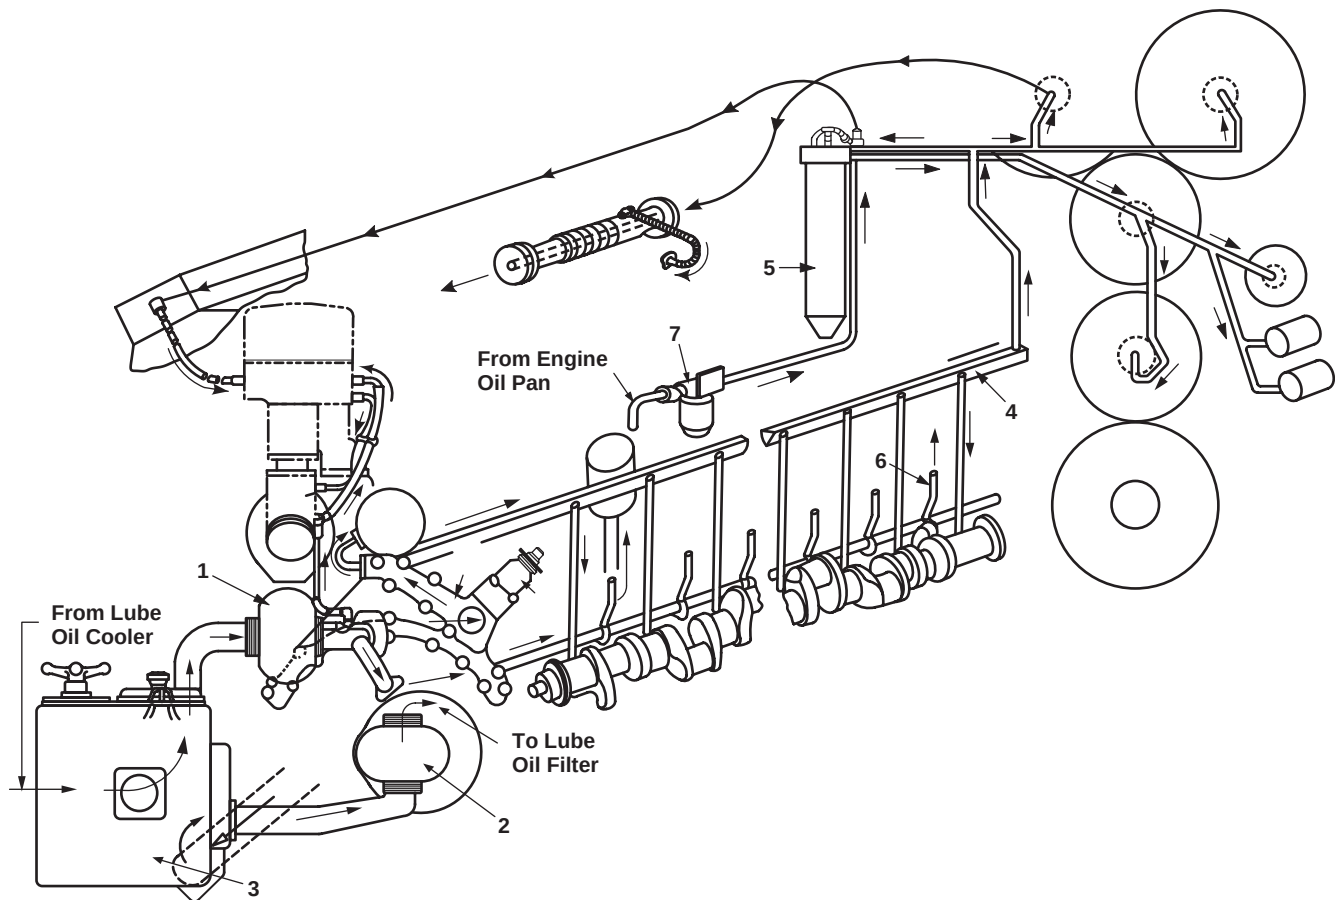

Figure 4. Main Engine Lubrication System
The complete engine lubricating oil system is a combination of five separate systems, holding 125 gallons (473 liters) of lubricating oil. The five separate systems are: the main lubricating system, the piston cooling system, the scavenging oil system, the turbocharger lubrication (soakback) system, and the prelube system. Each system has its own oil pump. The main lube oil pump and main lube oil and piston cooling oil pump (figure 4, item 1), although individual pumps, are both contained in one housing and driven from a common drive shaft. The scavenging oil (figure 4, item 2), soakback, and prelube pumps are separate pumps. All pumps except the soakback and the prelube pumps are driven from the accessory gear train at the front of the engine.
The main lubricating oil system supplies oil under pressure to most of the moving parts of the engine. The main lube oil and piston cooling oil pump (figure 4, item 1) take oil from the strainer housing (figure 4, item 3) at the right front of the engine. Oil from the main lube oil and piston cooling oil pump goes into the main oil manifold (figure 4, items 4), which is located above the crankshaft and extends the length of the engine.
Oil tubes at the center of each main bearing “A” frame conduct oil from the main manifold (figure 4, item 4) to the upper half of the crankshaft bearings. Drilled passages in the crankshaft supply oil to the connecting rod bearings, damper, and accessory drive gear at the front of the crankshaft. Runoff oil from the adjacent main bearings lubricates the crankshaft thrust bearings.
Oil from the main lube oil manifold (figure 4, item 4) enters the gear train at the idler gear stubshaft bracket located at the rear of the engine. Oil passages in the stubshaft bracket distribute the oil. One passage conducts oil to both the right and left bank camshaft drive, gear stubshaft brackets, and to a manifold connected to the turbocharger oil filter (figure 4, item 5). After passing through the turbocharger oil filter, the oil enters the return line in the manifold and flows back to the idler gear stubshaft. A passage in the idler gear stubshaft bracket directs lube oil to the upper and lower stubshaft bearings. Filtered oil enters the turbocharger oil system from the upper idler gear stubshaft.
An oil passage in the turbocharger oil filter (figure 4, item 5) head, parallel to the turbocharger oil filter output line, is connected to a passage in the turbocharger oil manifold. An oil pressure line is connected between the manifold passage and the low oil pressure device in the governor.
Internal parts of the piston are lubricated and cooled by the piston cooling oil pump of the main lube oil and piston cooling oil pump (figure 4, item 1). The piston cooling oil pump receives oil from a common suction with the main lube oil pump and routes oil to the two piston cooling oil manifolds extending the length of the engine, one on each side. A piston cooling oil pipe (figure 4, item 6) at each cylinder directs a flow of oil through the carrier to cool the underside of the piston crown and the ring belt. Some of this oil enters the oil grooves in the piston pin bearing and the excess oil drains out through holes in the carrier crown to the sump.
The scavenging oil system pump (figure 4, item 2) takes oil through the scavenging oil strainer from the oil pan sump or reservoir. The pump forces the oil through the oil filters and oil cooler that are located forward of engine. Oil then returns to the strainer housing to supply the main lube oil pump and piston cooling oil pump with cooled and filtered oil. Excess oil spills over a dam in the strainer housing and returns to the oil pan.
Prior to the engine startup, a soakback pump lubricates the turbocharger. Oil is drawn from the engine oil sump and passes through a soakback pump filter (figure 4, item 7). Oil is then supplied to the turbocharger through external piping, which is connected to the engine-mounted filter housing. In operation, the turbocharger is lubricated by the main oil pressure pump of the main lube oil and piston cooling oil pump (figure 4, item 1) through internal passages within the engine. Before entering the turbocharger, the oil passes through an engine mounted turbocharger filter (figure 4, item 5).
A pressure relief valve set at 379 PSI (26 bar) is located in the head of the turbocharger oil filter (figure 4, item 5). When the engine starts, and while the motor driven pump is still running, main lube oil pressure from the engine-driven pump becomes greater than the motor driven pump pressure. Since there is no outlet for the lower pressure oil, the relief valve will open when the pressure builds up to 379 PSI (26 bar), and the oil will return to the pan through a passage in the turbocharger oil filter head mounting flange. Also located in the turbocharger oil filter head is a bypass valve, set at 483 PSI (33 bar). This valve will open to permit motor driven pump pressure to bypass a plugged filter element so that lubrication can be supplied to the turbocharger to prevent turbo damage.
The turbocharger oil filter (figure 4, item 5) provides additional protection for the high-speed bearings and other lubricated areas of the turbocharger by filtering the oil just before it is admitted to the turbocharger. Oil enters the filter through a cast manifold and, after passing through the filter, returns to the upper idler gear stubshaft and into the turbocharger. The filter element is pleated paper construction, and is disposable. The filter is mounted on the camshaft drive housing at the right bank of the engine.